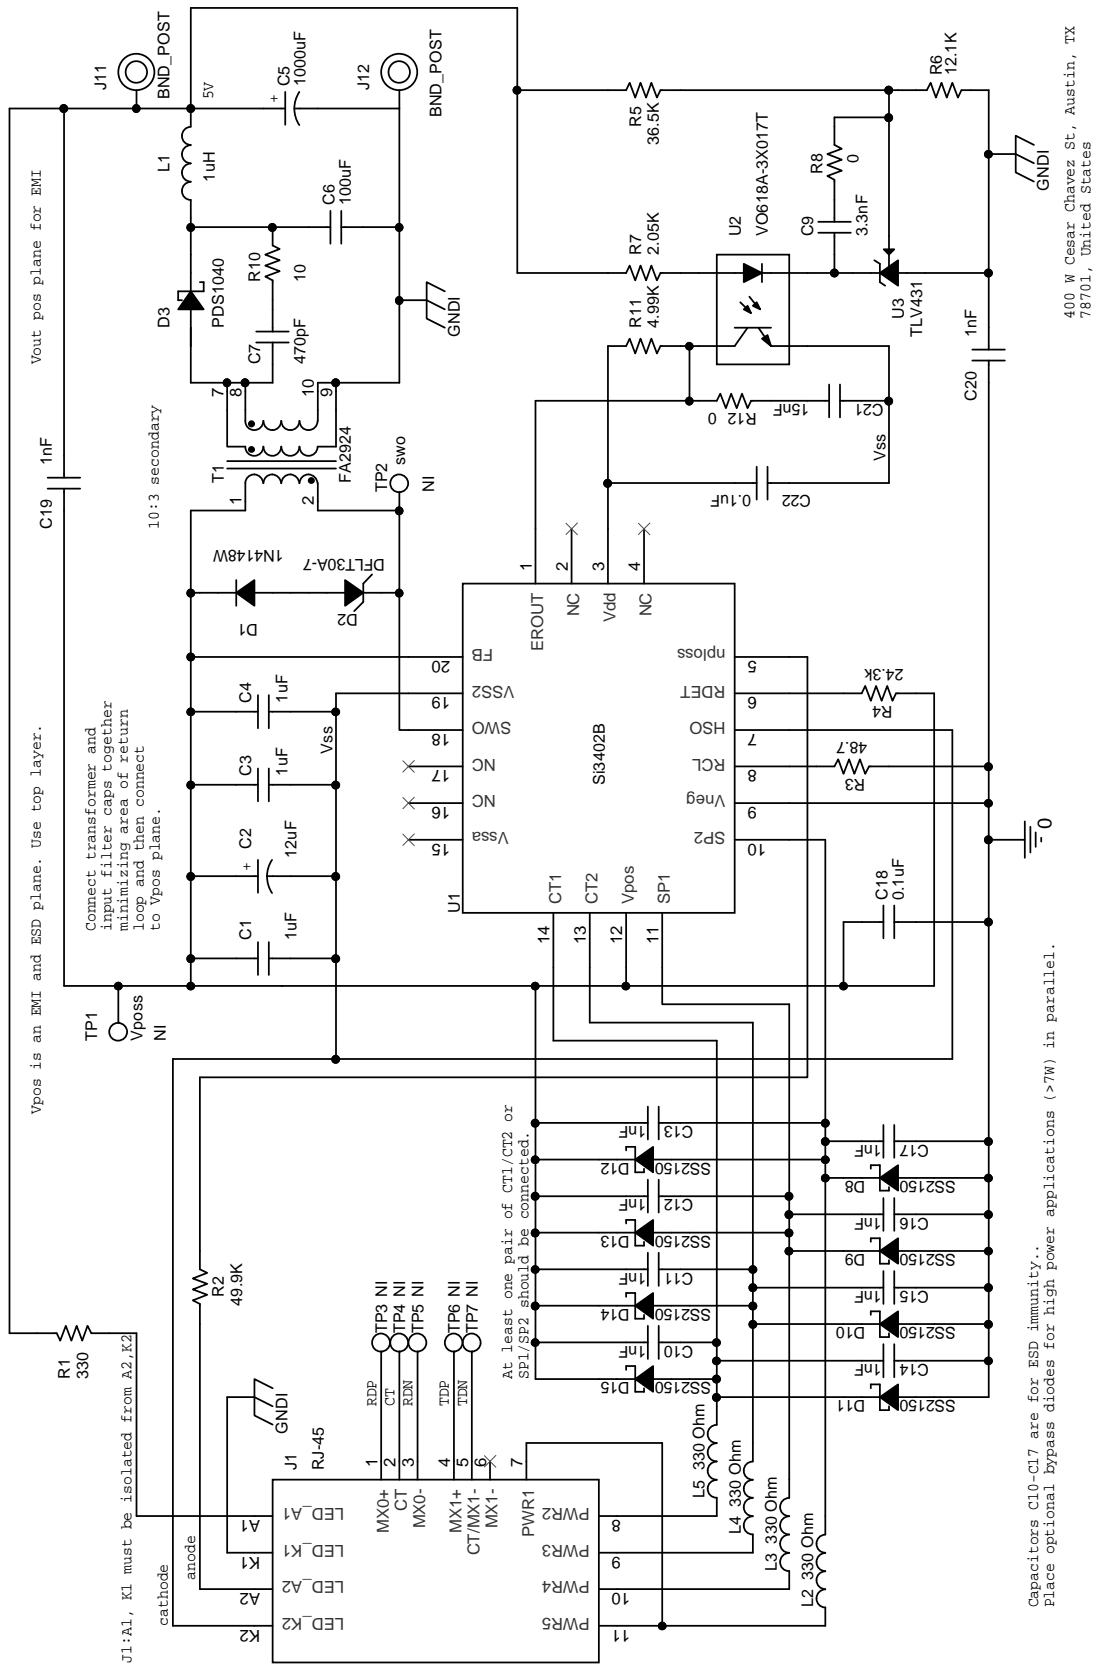

Figure 1. Si3402B Schematic—5 V, Class 3 PD
The Si3402BISO-EVB board schematics and layout are shown in Figures 1 through 6.
- d. Based on your required PD power level, select the appropriate class resistor value by referring to Table 3 of AN956. This sets the Rclass resistor (R3 in Figure 1 on page 2).
- a. ESD caps (C10–C17 in Figure 1) are strongly recommended for designs where system-level ESD (IEC6100-4-2) must provide >15 kV tolerance.